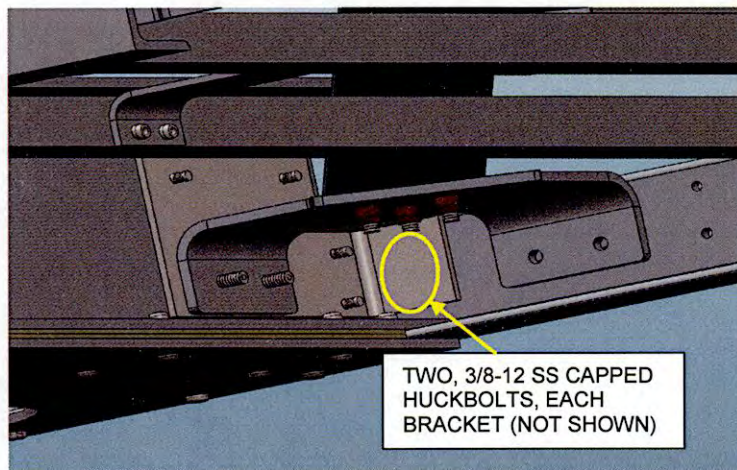

Figure 16
20. Each beam end bracket must be attached to the coupler side rail before the rest of the bracket fasteners are secured. There are existing holes in the trailer lower side rail which were used to attach the original brackets. Drill through these holes and into the new brackets using an 'X' bit and secure using 3/8-12 stainless steel capped Huckbolts. See Figure 16.